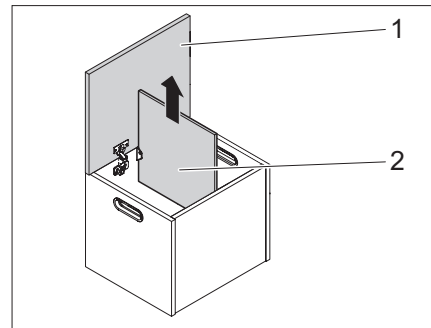

Fig. 47 Remove the lid
- Undo the hinges of the lid (Fig. 47,1) and remove the lid upwards.
- Pull the partition (Fig. 47,2) out of the storage box.